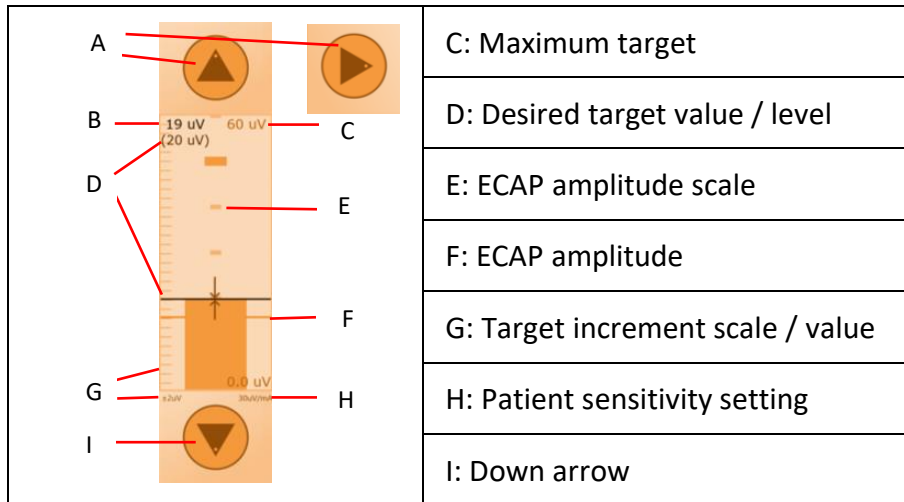

Figure 6.21: Features of the ECAP amplitude bar.
3. When closed-loop is enabled, the rolling plot will display with an orange background and the current will vary over time (Figure 6.19). The ECAP amplitude will vary around the target level (Figure 6.21). If the ECAP variability is increased after closed-loop is enabled:
4. Monitor the rolling plot through various postures. Ask the patient to move into various postures such as sitting, standing and lying on their back (supine) while you watch the rolling plot to see how the closed-loop control responds. The ECAP amplitude will show some variability, but the average ECAP amplitude should track the target level (Figure 6.21), and changes in current should track the patient's movement (Figure 6.20). If they don't, you may need to adjust the ECAP measurement settings (see Section 6.10).
Closed-loop stimulation may be changed using the ECAP amplitude bar (Figure 6.21).